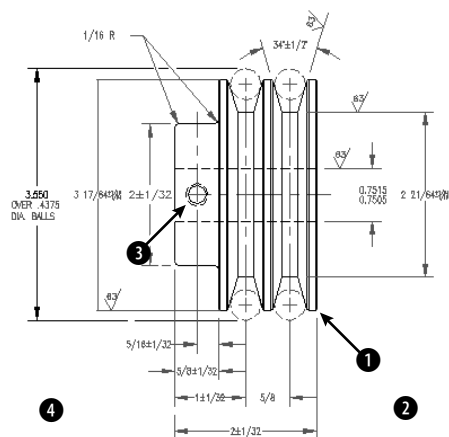

Figure 14-27: A set of pulleys.
2. Save the file as ab14-06.dwg in your AutoCAD Bible folder. This is a drawing of a set of pulleys, as shown in Figure 14-27. If the Dimension toolbar isn't visible, right-click any toolbar and check Dimension. OSNAP should be turned off.
Specify first leader point, or [Settings]<Settings>: Pick ❶ in Figure 14-27 (near but not on the drawing object).
5. Repeat the QLEADER command. Pick points **3** and then **4** in Figure 14-27. Right-click or press Enter. At the Specify text width <2>: prompt, press Enter to use the same width as previously. At the Enter first line of annotation text <Mtext>: prompt, type **DRILL 'F' HOLE**. Press Enter twice to end the command and place the leader.